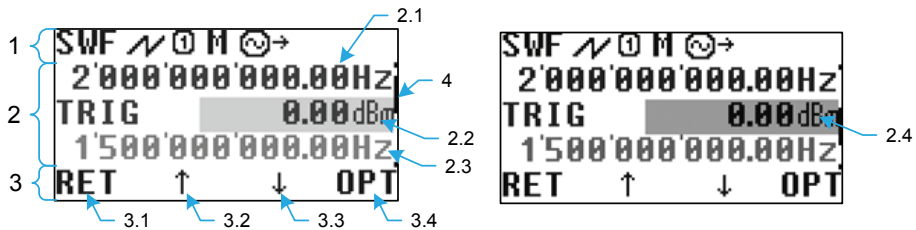

Figure 7: Display
Figure 7 shows the display screen view. It is divided into several fields: *Status Bar* (1), *Menu Items* which can be textual, numeric and graphical (2), *Context Sensitive Menu* (3) which depends on the currently selected item, and *Scroll bar* (4) showing the current position of the displayed window relative to the whole menu item list. Menu consists of the items arranged in left-to-right and top-to-bottom order. (2.1-2.4). The number of the items can vary from a few to dozens making up several lines of the screen. One line can contain more than one item. In the case of more than three lines scroll bar appears on the screen. Some items can be shaded (have less brightness, 2.3). It means that in this operation mode
The default state of the rotary knob is the menu navigation mode. Single click the knob on the selected numerical menu item (e.g. see fig. 7, item. 2.2) puts the menu item to the numerical data entry mode, rotation of the knob corresponds to the increase or decrease of the numerical value. To exit from the numerical entry mode to the navigation mode just click the knob again or press one of the context sensitive menu keys (RET, ↓, ↑).